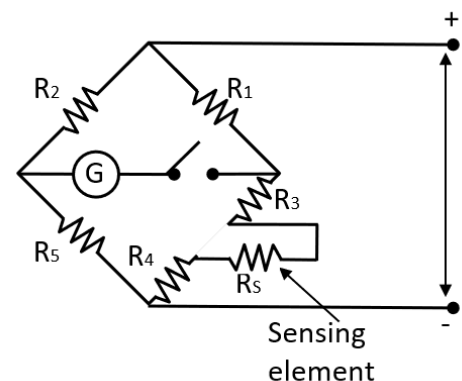

Figure 6.4.2: Working of PT100
- When the sensing element is very near the bridge as shown in Figure 6.4.2, and under balanced conditions, the following relationship holds good.